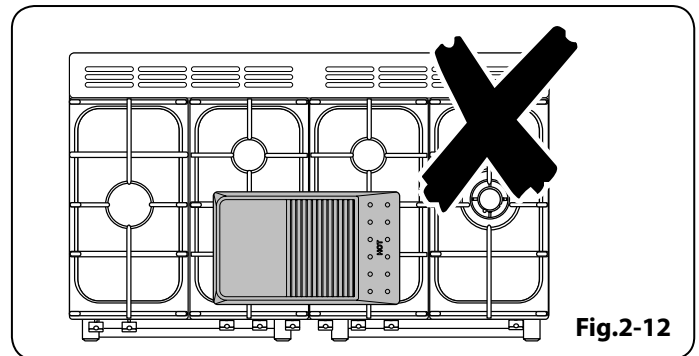

Fig.2-12
- ⚠ **DO NOT put it crossways – it will not fit properly and will be unstable (Fig.2-12).**